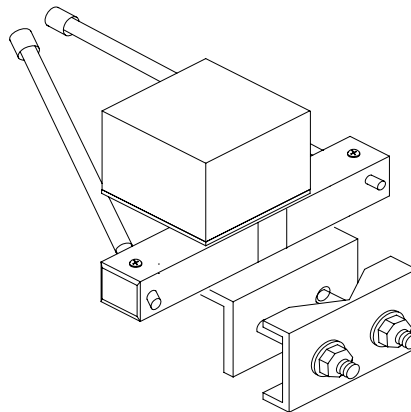

FIG. 1
3. Locate (2) 12"X1/4" rod assemblies (SUB43202). Refer to Fig. 1. Loosen the (2) 4-40 screws that are at the ends of the square radiators enough to allow the rods to pass through. Insert the rods from the same side the matchbox is on. Allow approximately 1/4" of 1/4" rod to extend out the back side. **Lightly** tighten each screw just enough to hold the rods in place.
4. Refer to Fig 1 and Fig 2. Assemble the back plate (14407) onto the 1/4" bolts with (2) flatwashers (14411), (2) lockwashers (14418) and (2) 1/4-20 hex nuts (14410). Slip the backup plate over the support mast and tighten the nuts equally. As you tighten, adjust the antenna and backup plate square to the mast. **Do not** overtighten, this will only warp the fiberglass angle and backup plate.